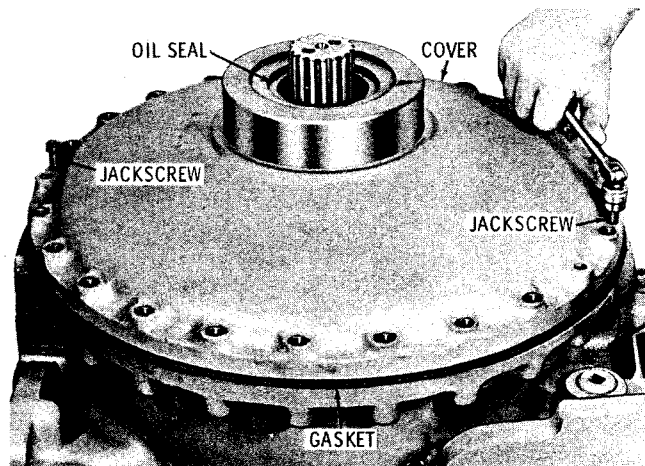

Fig. 5-11. Loosening transmission front cover
(2) Remove the input flange. If the flange is interference-fitted, refer to paragraph 4-8a for removal instructions.
(3) Remove 21 nuts, lock washers and bolts which retain the transmission front cover (fig. 5-11). Install two bolts, as jack-screws, into the cover. Tighten the bolts to loosen the cover.